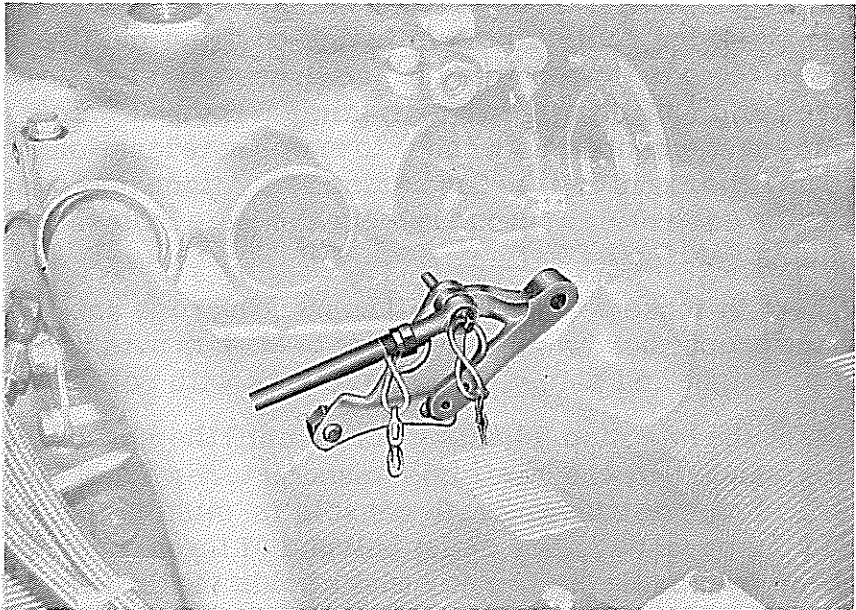
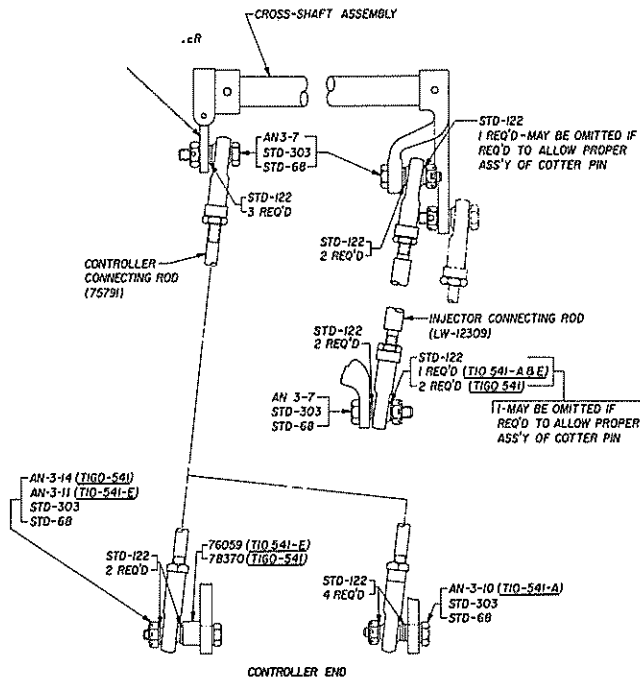

Figure 5-3. Fixture ST-319 Installed and Showing Cross Shaft Control Lever in Closed Throttle Position
Figure 5-8. Fuel Injector and Controlled Rods Attaching Parts
b. Position the cross shaft control lever using fixture ST-319 thus: Mount the fixture over no. 4 cylinder hold down 3/8 inch studs and nuts. Secure with two (P/N 383-B) nuts. If unable to secure with nuts because of insufficient thread, hold the fixture by hand. The fixture in position is shown in figure 5-3.
e. Align hole in ball end of injector connecting rod, hole in cross shaft control lever and hole in fixture. Insert fixture pin through all three holes. See figure 5-3. With throttle lever held firmly against gage on injector, adjust the connecting rod length (maintaining approximately equal thread engagements on both ends) and attach to throttle lever. Remove fixture (ST-319) and attach injector connecting rod to the cross shaft control lever using hardware shown in figure 5-8. Remove gage (ST-318).
- h. Check to make certain that all connecting rods are installed with the proper hardware (see figure 5-8): jam nuts and linkage nuts are tight and safety the linkage nuts with cotter pins.